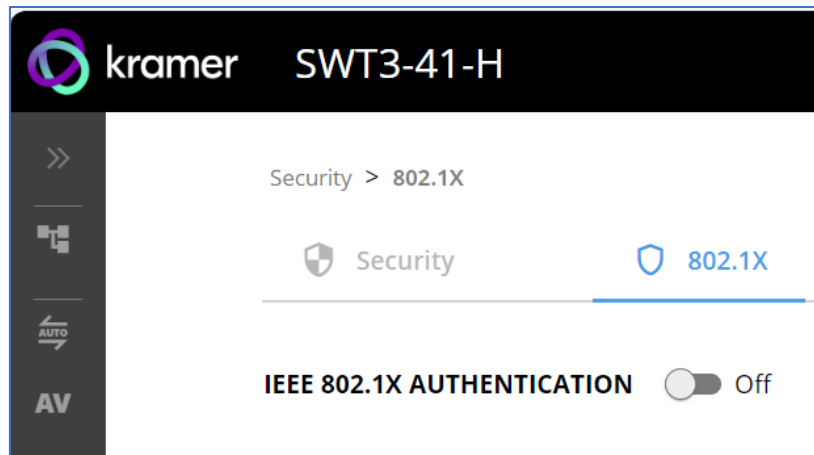

Figure 40: 802.1X Tab
2. Select **802.1X** tab. The 802.1X settings tab appears (see Figure 40).